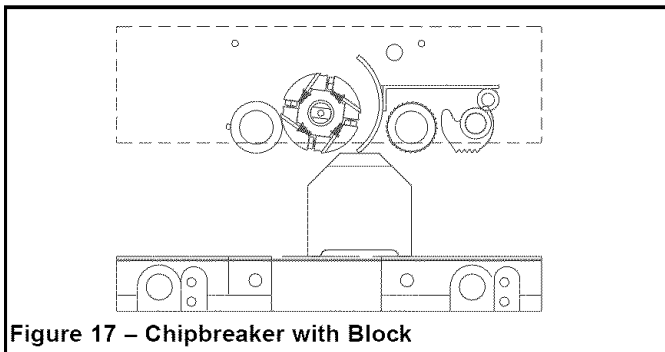

Figure 17 – Chipbreaker with Block
- Remove feeler gauge and slide adjustment block under chipbreaker (See Figure 17). Chipbreaker should just contact adjustment block. If chipbreaker is too high or too low, loosen hex nut on set screw above chipbreaker. Rotate set screw to position chipbreaker properly. Secure position by tightening hex nut on set screw.